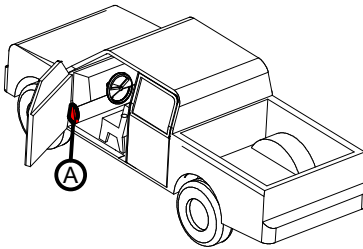

Figure A-1
2. Locate the rear door-ajar signal wire (**dark blue with white stripe**) on black connector below the hood-release lever (Area-A in Figure A-1). There should be two wires of this color; use the wire located on the row closest to the plug release.